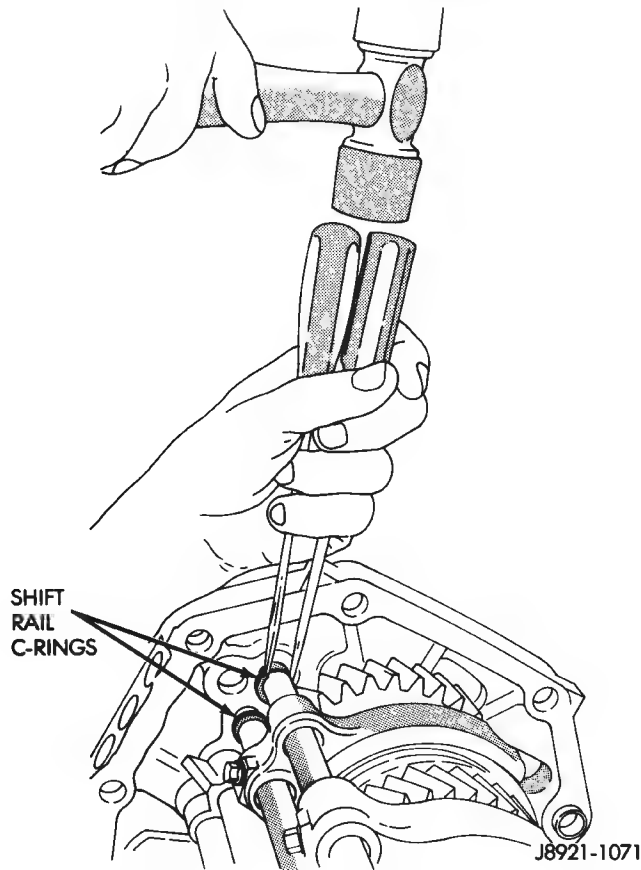

Fig. 42 Shift Rail C-Ring Removal
- (2) Remove 1-2 and 3-4 shift rail C-rings with two screwdrivers of equal size and length (Fig. 42).